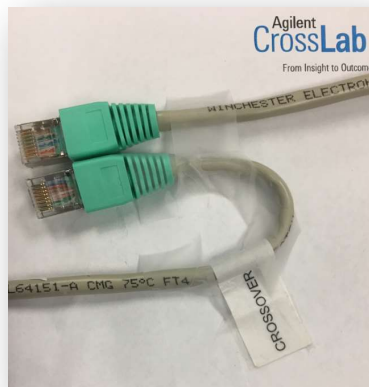

Figure 14.
3. If the computer connects directly to the instrument, verify that the cable is a crossover cable. A crossover cable is either black or it has crossover written on it. (Please see figure 14.)